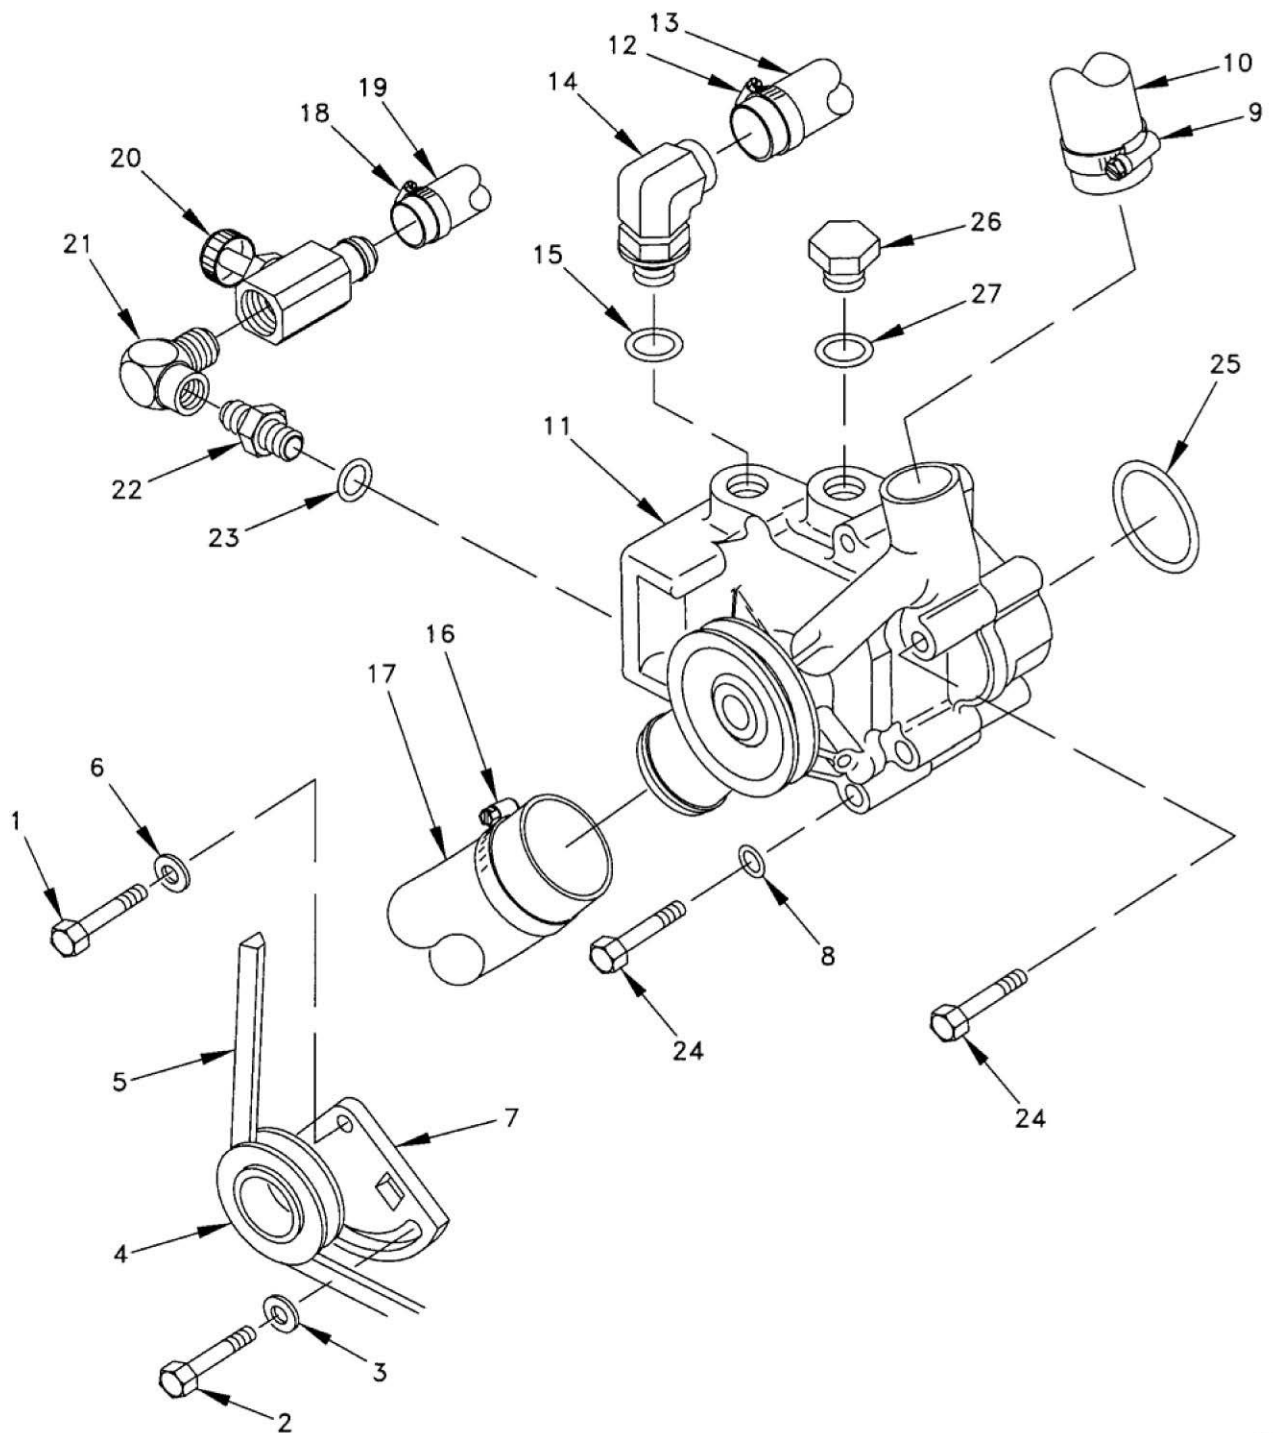

Figure 1. Water Pump.
4. Loosen pulley assembly mounting bracket bolt (Figure 1, Item 1), remove slot bolt (Figure 1, Item 2) and washer (Figure 1, Item 3), and move pulley (Figure 1, Item 4) to relax tension on water pump belt (Figure 1, Item 5). Remove water pump belt (Figure 1, Item 5). Remove pulley assembly mounting bracket bolt (Figure 1, Item 1), washer (Figure 1, Item 6), and pulley assembly (Figure 1, Item 7).
5. Remove clamp (Figure 1, Item 9) and hose (Figure 1, Item 10) from top right side of water pump (Figure 1, Item 11). Remove clamp (Figure 1, Item 12) hose (Figure 1, Item 13), elbow (Figure 1, Item 14), and O-ring (Figure 1, Item 15) from top left side of water pump (Figure 1, Item 11).
6. Remove hose clamp (Figure 1, Item 16) and lower radiator hose (Figure 1, Item 17) from water pump (Figure 1, Item 11).
7. If winterization kit is installed, remove hose clamp (Figure 1, Item 18), heater hose (Figure 1, Item 19), shut-off valve (Figure 1, Item 20), elbow (Figure 1, Item 21), fitting (Figure 1, Item 22), and O-ring (Figure 1, Item 23) from water pump (Figure 1, Item 11).
8. Remove four bolts (Figure 1, Item 24) and water pump (Figure 1, Item 11).
9. Remove O-ring (Figure 1, Item 25).
10. Remove plug (Figure 1, Item 26) and O-ring (Figure 1, Item 27), if necessary.
1. Install O-ring (Figure 1, Item 27) and plug (Figure 1, Item 26), if necessary.
2. Install O-ring (Figure 1, Item 25) into recessed hole at rear of water pump (Figure 1, Item 11).
3. Install water pump (Figure 1, Item 11) and secure with four bolts (Figure 1, Item 24). Torque bolts (WP 0095).
4. If winterization kit is installed, install O-ring (Figure 1, Item 23), fitting (Figure 1, Item 22), elbow (Figure 1, Item 21), shut-off valve (Figure 1, Item 20), heater hose (Figure 1, Item 19), and hose clamp (Figure 1, Item 18) on water pump (Figure 1, Item 11).
5. Install lower radiator hose (Figure 1, Item 17) and hose clamp (Figure 1, Item 16) on water pump (Figure 1, Item 11).
6. Install O-ring (Figure 1, Item 15), elbow (Figure 1, Item 14), hose (Figure 1, Item 13) and hose clamp (Figure 1, Item 12) on top left side of water pump (Figure 1, Item 11). Install hose (Figure 1, Item 10) and clamp (Figure 1, Item 9) on top right side of water pump (Figure 1, Item 11).
7. Install pulley assembly (Figure 1, Item 7), washer (Figure 1, Item 6) and pulley assembly mounting bracket bolt (Figure 1, Item 1). Tighten bolt.
8. Install water pump belt (Figure 1, Item 5) on water pump pulley (Figure 1, Item 4).
9. Install washer (Figure 1, Item 3) and slot bolt (Figure 1, Item 2). Do not tighten.
10. Check water pump belt (Figure 1, Item 5) for correct routing and to be sure the belt is firmly seated in all pulley grooves.
11. Use breaker bar on pulley assembly (Figure 1, Item 7) to apply tension to belt and tighten slot bolt (Figure 1, Item 2) and pulley assembly mounting bracket bolt (Figure 1, Item 1) and washer (Figure 1, Item 6). Tighten bolt.